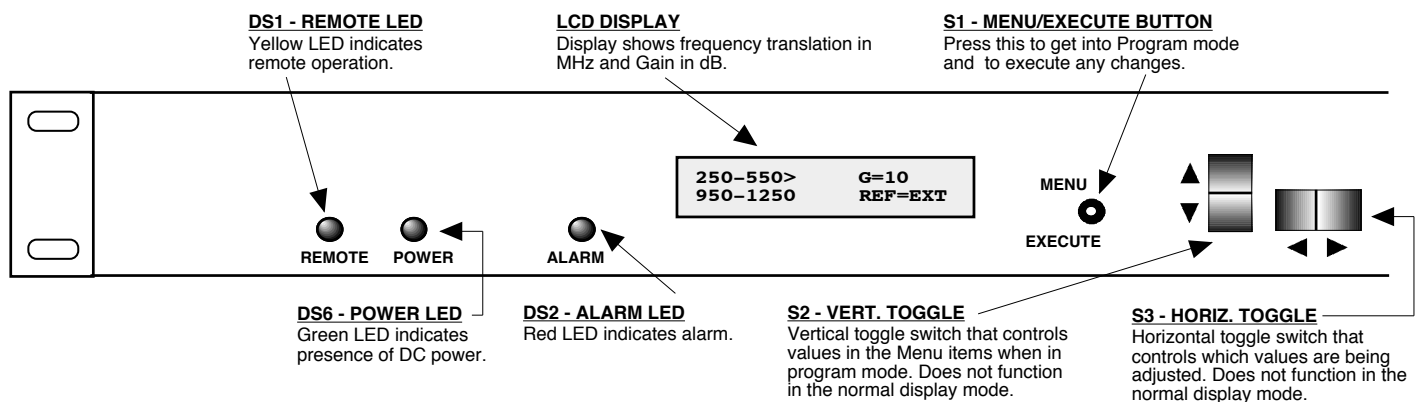

FIGURE 2.2 2083-0512 Front Panel Controls and Indicators
Figure 2.2 shows the front panel controls and indicators.
5. Be sure DS6 (green, DC Power) is on and DS2 (red, Alarm) is off (Figure 2.2).
Alarm indications appear on the LEDs (see Figure 2.2).